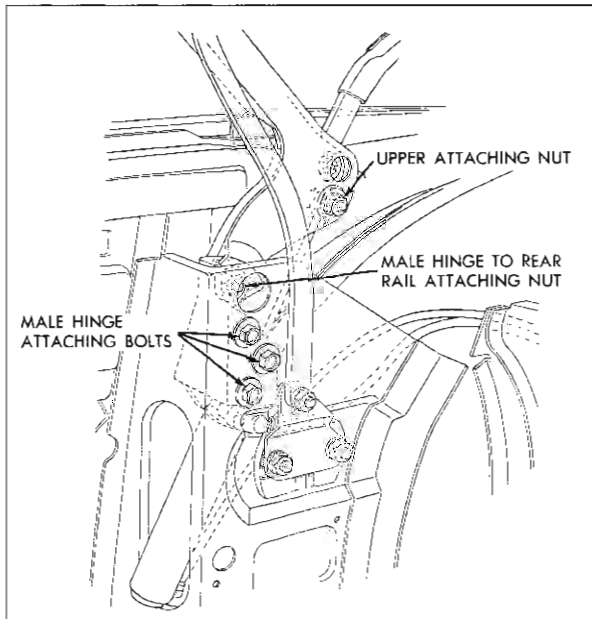

Fig. 21-70 Left Cylinder Removal
6. Remove attaching nut, bolt, bushing and washer from upper end of lift cylinder (Fig. 21-70).
7. Remove side roof rear rail to male hinge attaching nut and bolt (Fig. 21-70).
8. Remove folding top male hinge to top compartment brace attaching bolts (Fig. 21-70).